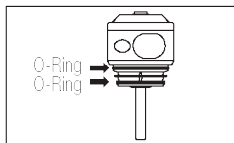

Fig. 10
- Check that the O-Rings are placed correct position and then install the cartridge.(Fig.10)
When water is found in the exhaust air or water leak from the coupled point, replace four O-rings as shown in Fig.10